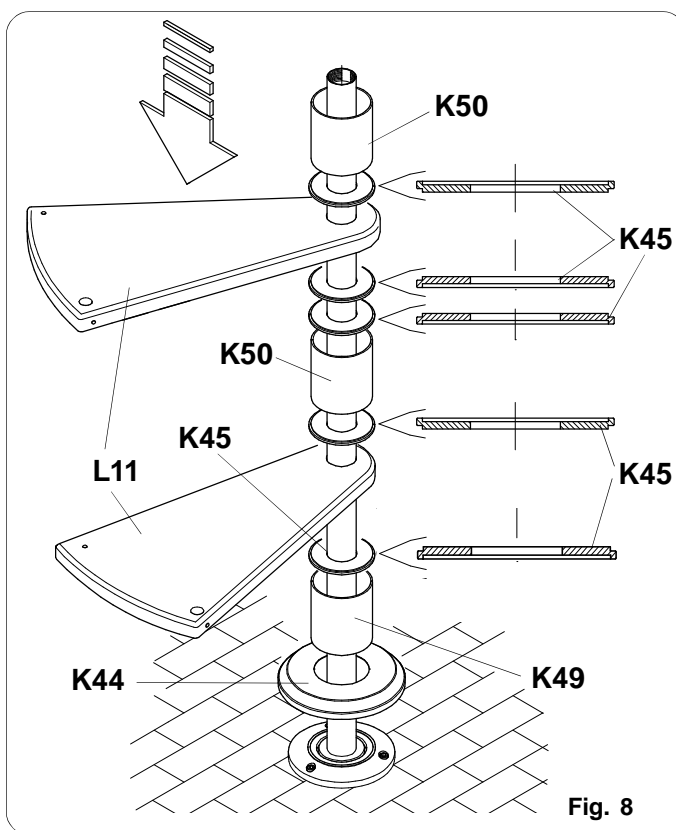
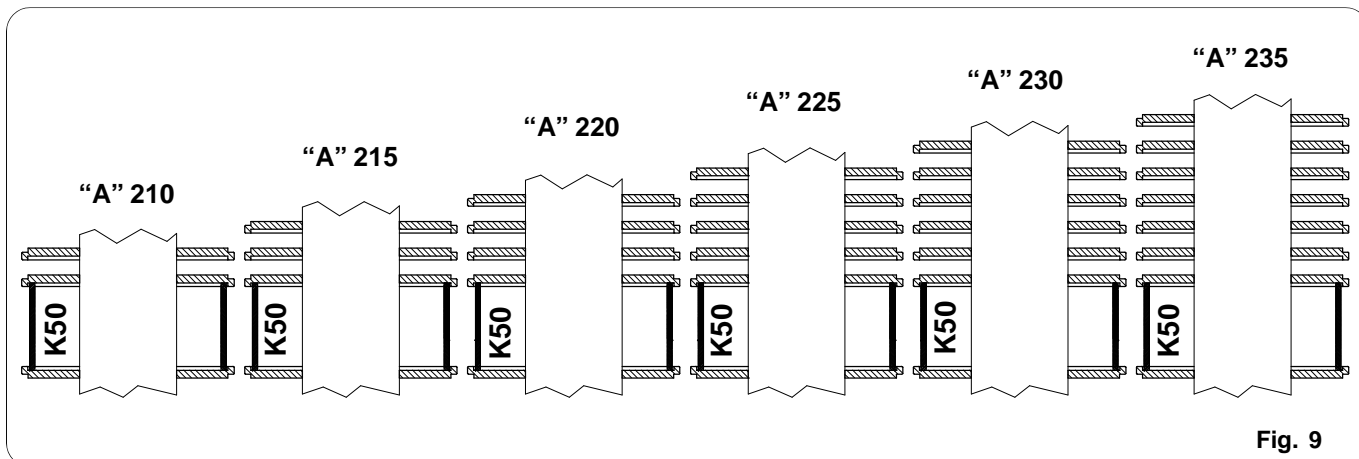

Fig. 8
Fig. 9
- Before completing the assembly of all the segments composing the pile, it is advisable to start also inserting the various elements that will compose the staircase (steps, spacers) by assembling them gradually as the assembly of the pile proceeds. First of all, insert the **K44** plate cover and the **K49** spacer (the only spacer 146mm tall), as shown in fig. 8
- Before inserting the **L11** step, mount the **K45** washer. Proceed to assemble the other steps and make sure that the **K45** centre washer is also assembled both above and below each step as shown in fig. 8. The number of washers to be inserted needs to be calculated in the relevant column of the attached rule (see the various combinations in the table reported below. Fig. 9).